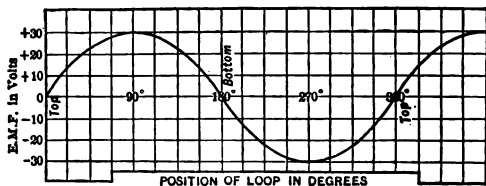

FIG. 331. — Alternating e. m. f. one complete cycle.
**365. Cycles and phase of alternating currents.** When a conductor is moved past a magnetic *N*-pole, the induced e. m. f. is in one direction, and when it moves past an *S*-pole, the induced e. m. f. is in the opposite direction. This can be best represented by the curved line shown in figure 331. One complete wave is produced when